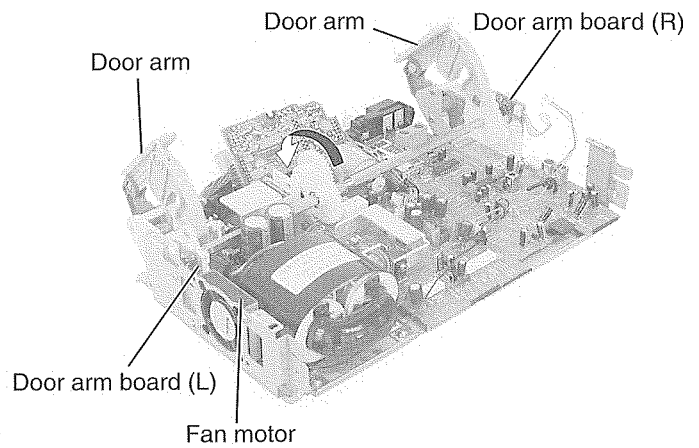

Fig.14
■ Removing the door arm assembly / the door arm board (R) and (L) (See Fig.14 to 19)